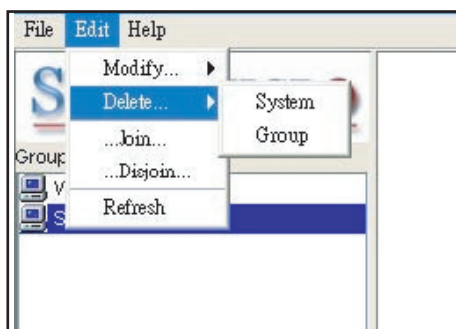

Figure 2-7
Step 5. As shown in Figure 2-7,
Select a system in the System Window you want to modify and then click “Edit>Modify...>System” from the pull-down menu shown in Figure 2-7 to modify it.
Select a system in the System Window you want to delete, and then click “Edit>Delete...>System” from the pull-down menu shown in Figure 2-7 to delete it.
Select a group in the Group Window you want to modify and then click “Edit>Modify...>Group” from the pull-down menu shown in Figure 2-7 to modify it.
Select a group in the Group Window you want to delete and then click "Edit>Delete...>Group" from the pull-down menu shown in Figure 2-7 to delete it.
Select a group in the Group window and select a system in the System Window, then click "Edit>...Join..." from the pull-down menu shown in Figure 2-7 to have the selected system join the desired group.
Double click the group you want to disjoin a system from. The members of that group will appear in the System Window. Then, select the system you want to disjoin and click "Edit>...Disjoin..." from the pull-down menu shown in Figure 2-7.